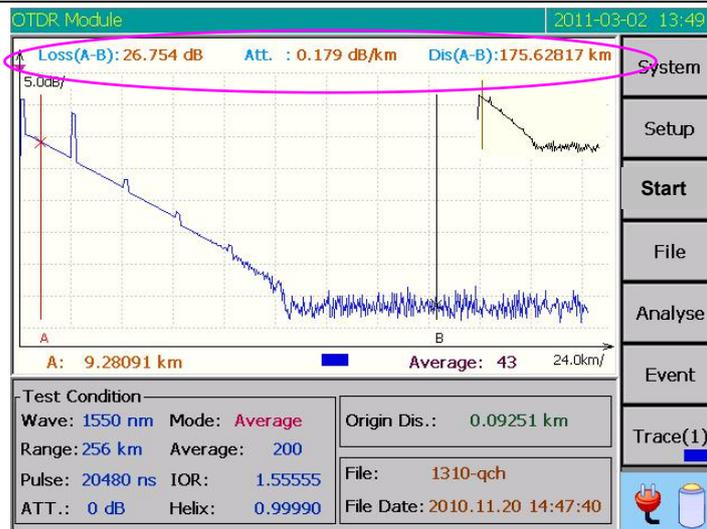

Figure 8-4 Average loss test
Then, the test results displayed on OTDR main screen are: loss between A and B, distance between maker A & B and average loss of fiber section between marker A & B as shown in Figure 8-4.
**Note** In average loss test, marker A & B must be placed on the linear area of fiber trace (as shown in Figure 8-4 above, otherwise the calculated average loss will have bigger error.